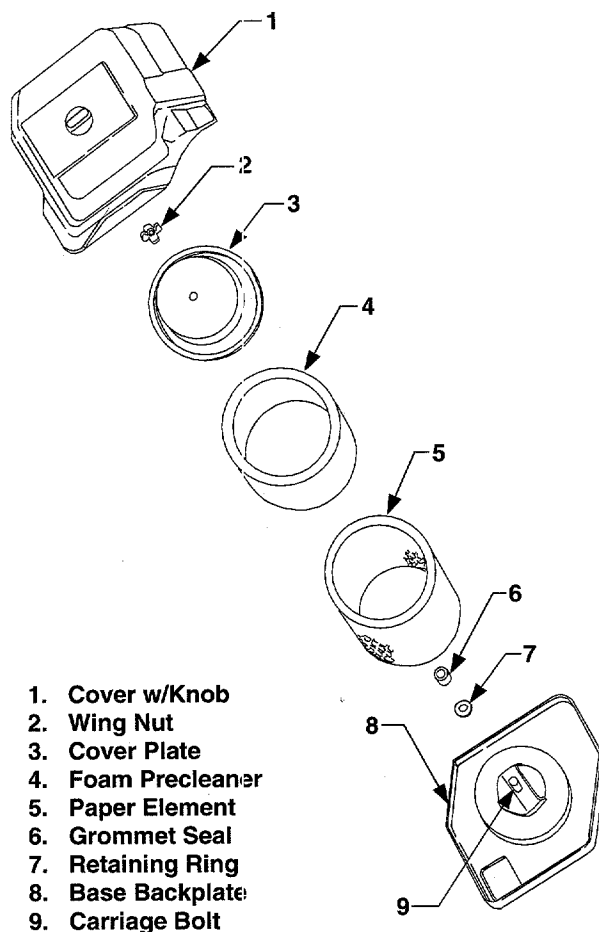

Figure 24. Air Cleaner Assembly.
1. Unfasten the air cleaner cover retaining knob and remove the air cleaner cover (See Figure 24).
2. Remove the foam precleaner by sliding it up off the paper element (See Figure 24).
The air cleaner element cover plate (See Figure 24) must be properly installed to seal against the gasket surface of the paper element.
6. Inspect the rubber grommet seal (See Figure 24) for deterioration, cracks, and for a snug fit on the carriage bolt. Replace if damaged or worn.
7. After making certain the carriage bolt is secured in position by the retaining ring, slide the grommet seal fully onto carriage bolt. See Figure 24.